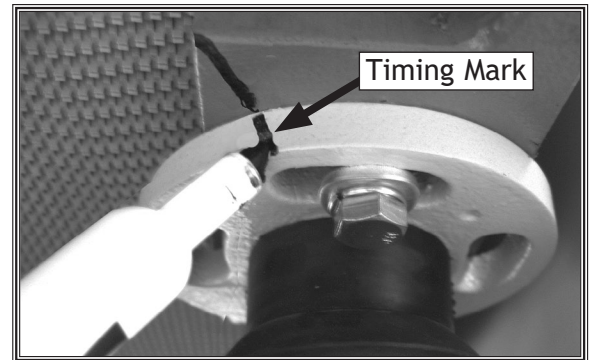

Figure 52. Marking lead screw for reassembly.
6. Using a permanent marker, mark all four lead screw flange positions (**Figure 52**), and remove all hex bolts from the flanges.